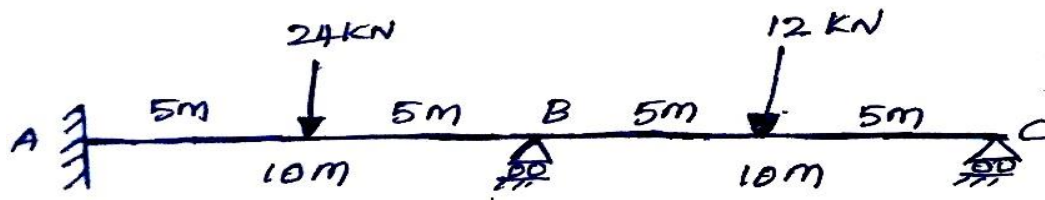

Figure 3.5
5. Analysis a continuous beam as shown in Figure 3.5 if downward settlement B & C is $kN-m$ units are $200/EI$ and $100/EI$ respectively. Using Stiffness matrix method